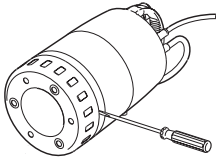

Fig. 8 Removal of suction strainer
3. Loosen the suction strainer by inserting a screwdriver between the pump sleeve and the strainer and turning it, see fig. 8.
2. Loosen the suction strainer by inserting a screwdriver between the pump sleeve and the strainer and turning it, see fig. 8.